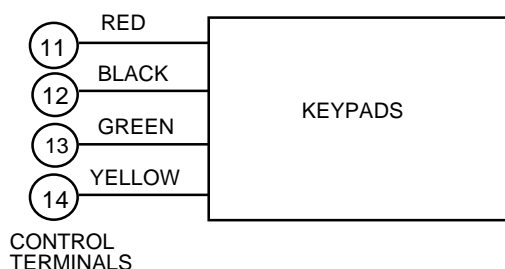

Figure 5-1: Keypad Connections To Keypad Port 1.
4. If using only one keypad, it may be connected to either Keypad Port 1 or 2, and must be mounted on, or within 3 ft. of, the cabinet. If using multiple keypads, connect one to Keypad Port 2 and mount it on, or within 3 ft. of, the cabinet. Set the main keypad to an address of 00. (This address cannot be disabled in programming.) Additional keypads can be mounted where desired, and must be connected to Keypad Port 1 terminals (11, 12, 13, 14), as shown in *Figure 5-1*. The keypad on Port 2 is electrically isolated from those on Port 1 and will continue to function even if wiring problems prevent the other keypads from working properly.